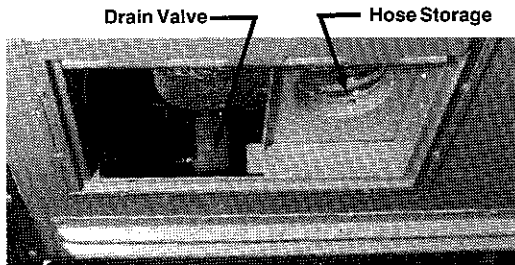

Figure 5-4. Location of Holding Tanks
2. Remove the safety cap from the single discharge connection by turning the locking ring in a counter-clockwise direction and connect the 3-inch sewer hose coupling to the end of the valve. Tighten locking ring securely, in a clockwise direction. The sewer hose is stored within a tube accessible through a compartment door located above the drain cap, figure 5-4. Place the discharge end of the hose into the sewer connection and check that all connections are secure to prevent accidental spillage.